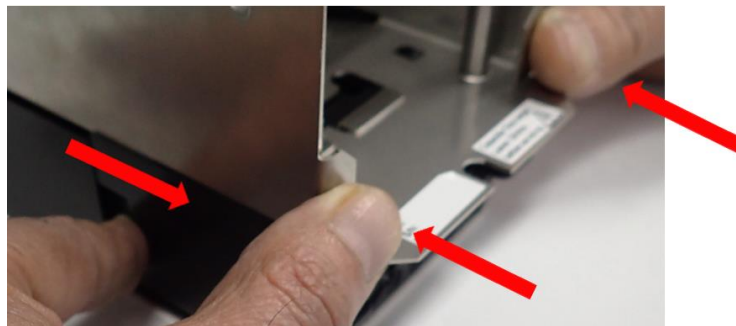

Figure 4-33: Recommended Recessed mount fan housing removal method
- Place index fingers in the fan housing recess located on the sides and pull back while using thumbs to push against the chassis return tabs as shown Figure 4-33.